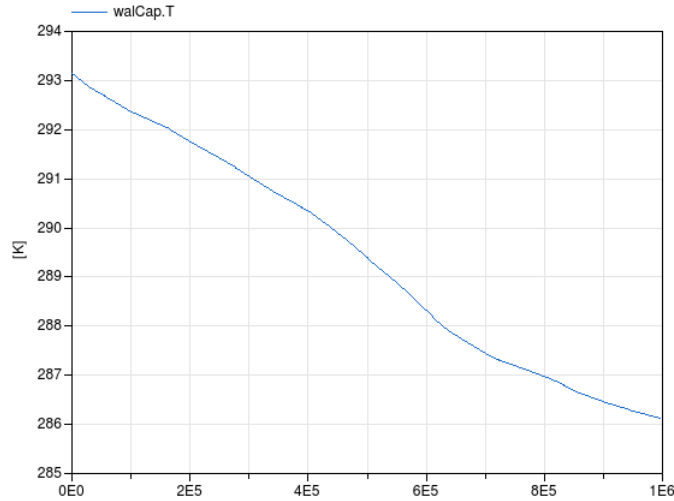

Figure 2: Wall temperature as function of time.
**Reference result** If you correctly added the model of the heat capacitor, connected it to the resistor and added the parameter values for  $C$  and  $R$ 2, then you should be able to simulate the model. To do this, go to the simulation tab (tab bar at the top), open the simulation options *Setup*, and set the model *Stop time* to 1e6 seconds. You can now simulate the model. You can plot individual variables values by clicking on their name in the variable browser on the left. Now plot the wall capacitor temperature value  $T$ . It should look like Figure 2.